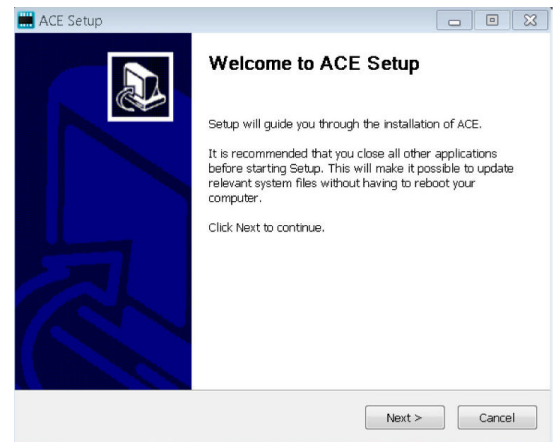

Figure 10. ACE Software Installation Confirmation
4. In the **ACE Setup** window, click **Next >** to continue the installation (see Figure 10).